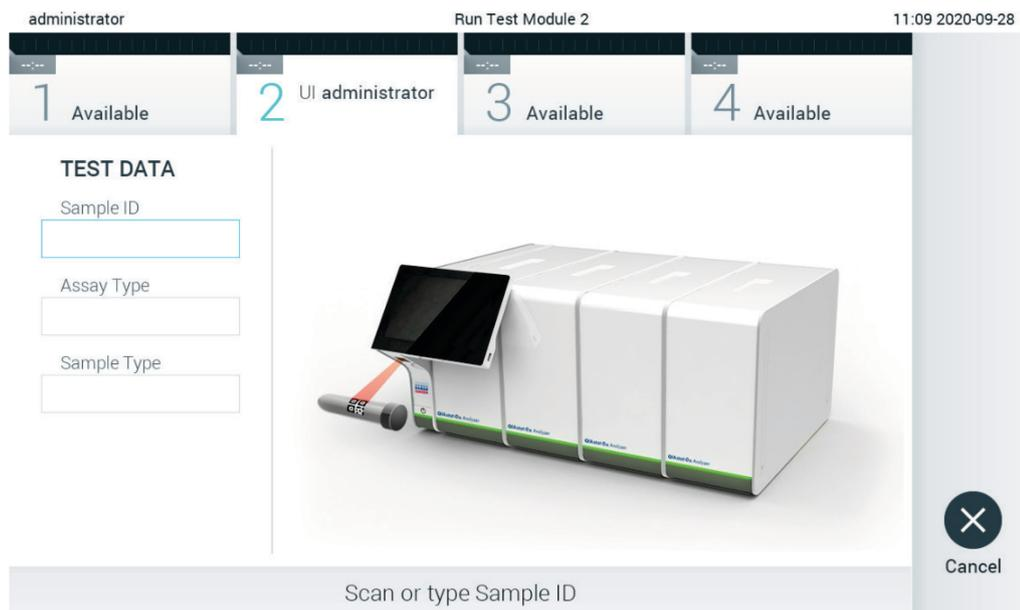

Figure 81. Scanning the sample ID bar code.
2. When prompted, scan the sample ID bar code using the bar code reader that is integrated into the Operational Module (Figure 81).